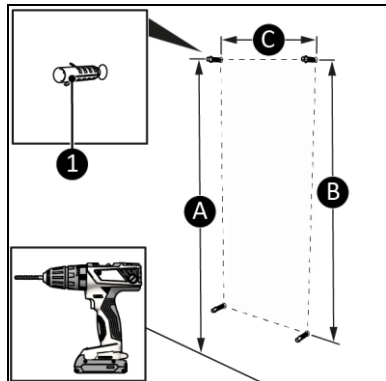

Figure 8
4. Drill two top holes for the dowels with 392 mm horizontal distance between the holes (Figure 8, pos. C). Use the distances from the list below to ensure the distance to the floor of at least 60 cm below the unit. (Figure 8, pos. A):
5. Drill two bottom holes for the wall plugs with 392 mm horizontal distance between the holes (Figure 8, pos. C). The vertical distance between the bottom and top holes is approximately (Figure 8, pos. B):
6. Place the wall plugs and provided rings (Figure 8, pos. 1).